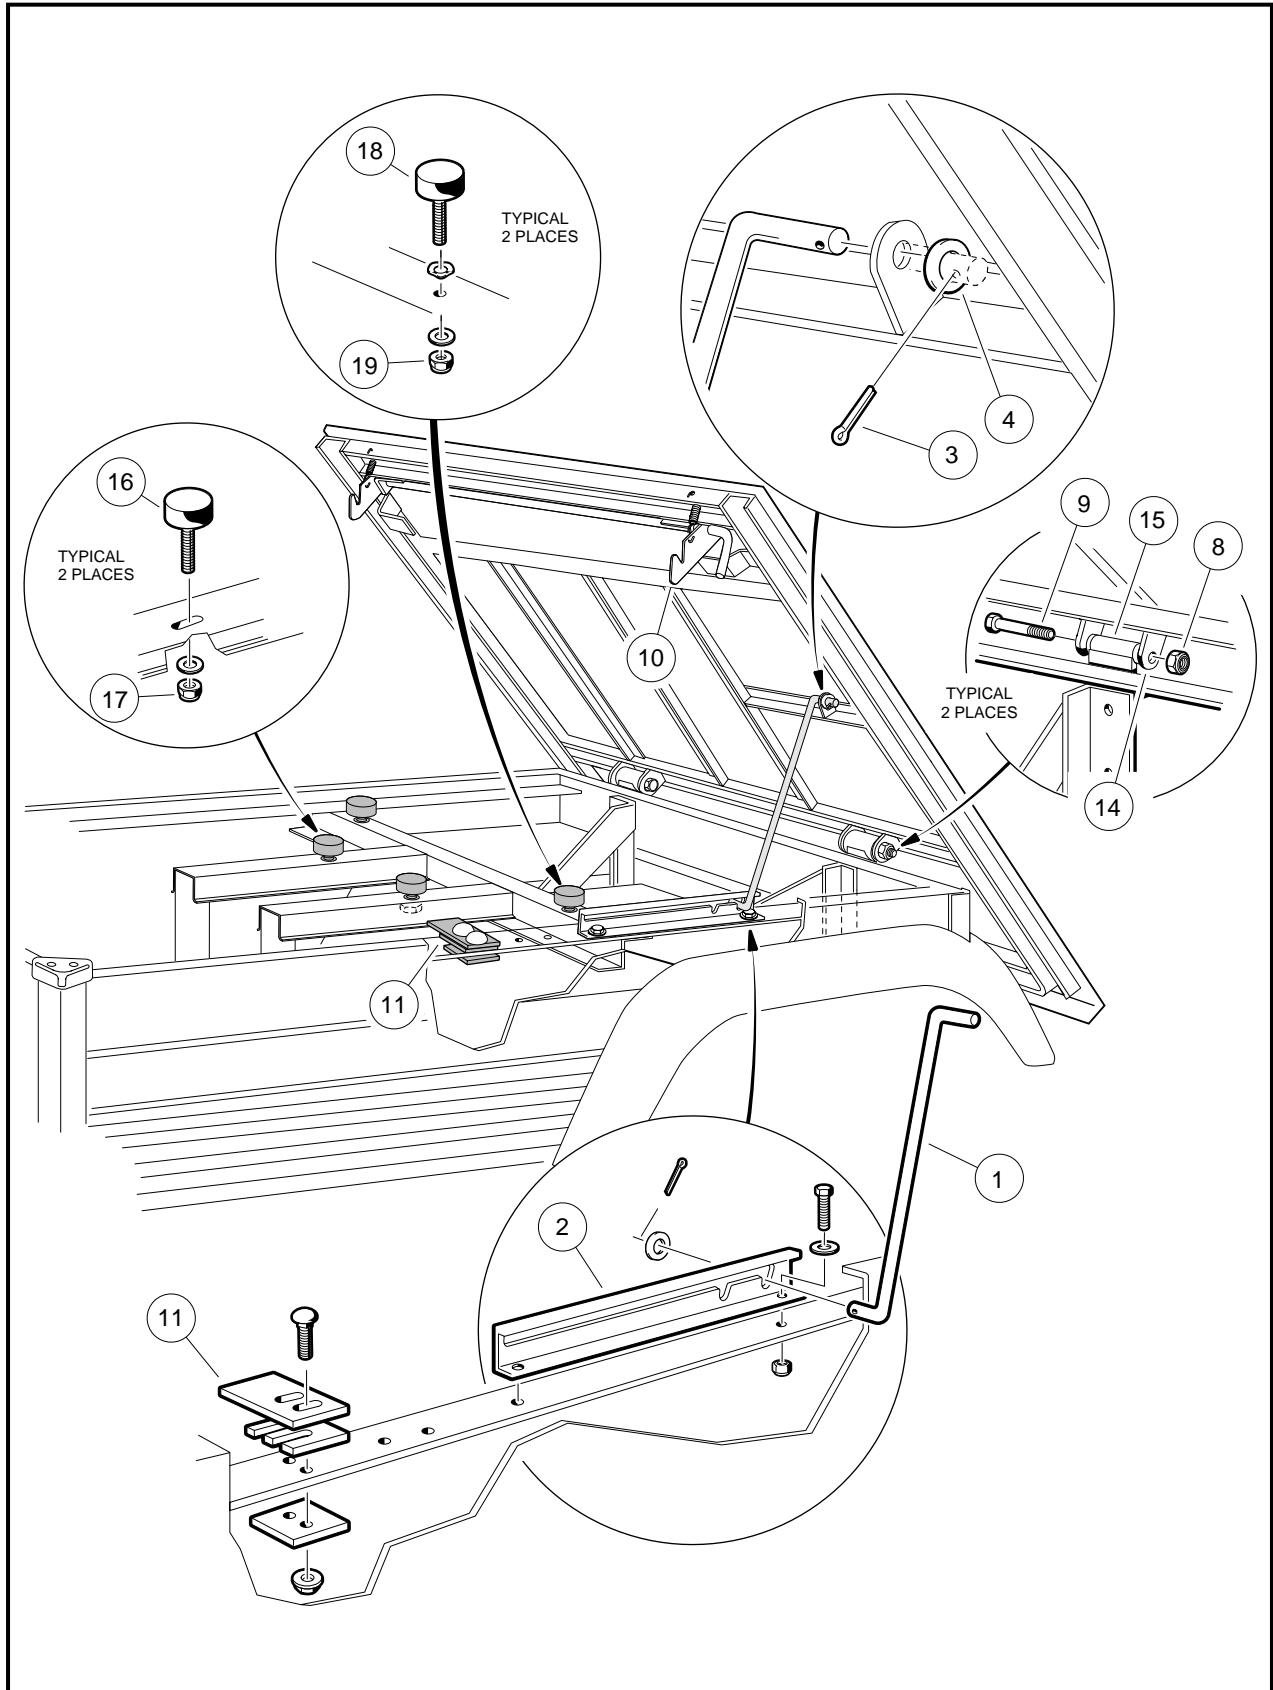

Figure 4-3 Tilt Bed
1. Raise bed and ensure that the prop rod (1) is secured in the prop rod track (2). Hold bed securely in an upright position. Remove cotter pin (3) and flat washer (4) from top end of prop rod where prop rod attaches to bed. Remove prop rod (1) from bed and place prop rod between prop rod track (2) and rear body panel. Lower bed onto vehicle frame **(Figure 4-3, Page 4-9)**.
2. Remove two locknuts (8) from left and right tilt bed hinge assemblies (15) **(Figure 4-3, Page 4-9)**.
3. Apply slight upward pressure (by hand) on the rear of the bed to relieve pressure on the hinges and remove the hinge bolts (9) from the hinge assemblies.
4. Raise rear edge of bed approximately 6 inches (15.2 cm) and pull bed assembly toward rear of vehicle approximately 3 inches (7.6 cm) to release bed latch assembly (10) from latch plate (11) **(Figure 4-3, Page 4-9)**.
1. Hold bed at a slight angle (front of bed lower than rear of bed) to vehicle and place front edge of bed onto vehicle frame. Bed latches (10) should be engaged with latch plates (11) **(Figure 4-3, Page 4-9)**.
2. Lower edge of bed onto vehicle and align hinge brackets (15) with bed hinge (14) **(Figure 4-3, Page 4-9)**.
3. Start the bolts (9) into left and right hinge assemblies (14 and 15). It may be necessary to use an alignment tool to align holes in hinge bracket with steel bushing in hinge assembly **(Figure 4-3, Page 4-9)**.
5. Install a nylon locknut (8) on each bolt (9) and tighten to 15 ft-lb (21 N-m) **(Figure 4-3, Page 4-9)**.
6. Lift bed and place the prop rod (1) in bed mounting hole. Install a 3/8 inch flat washer (4) and a **new** cotter pin (3) on prop rod **(Figure 4-3, Page 4-9)**.
1. Adjust the front two bumpers (16) by loosening the locknut (17) and positioning the bumper in the slot so that when the tilt bed is lowered, the bumper is centered on the bed frame weldment **(Figure 4-3, Page 4-9)**.
2. Tighten the locknut (17) to secure bumper to 20 in-lb (2.3 N-m).
3. Adjust the two rear bumpers (18) by tightening or loosening the nut (19) until a 3/16 inch gap between the bottom of the bumper head and the frame weldment is achieved. These bumpers are not to be tightened completely down; they are designed to "float".